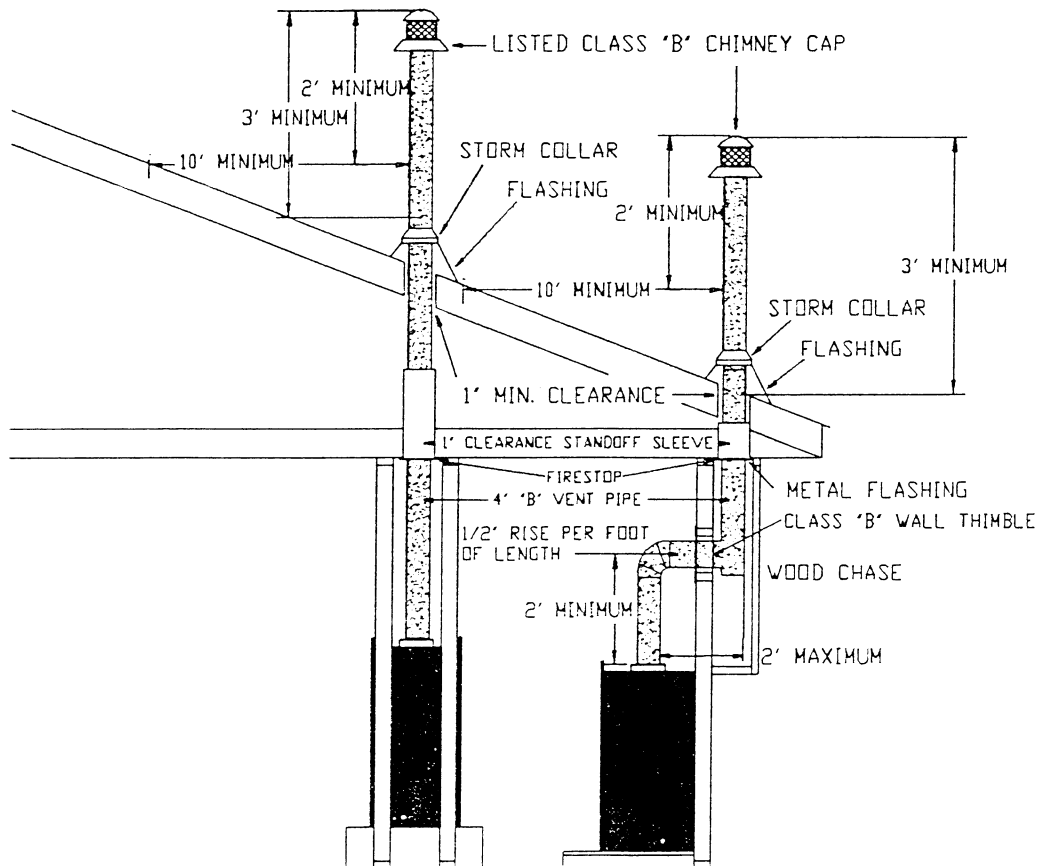

FIGURE 6
D) INSTALL THE CHIMNEY SYSTEM. See Figure 6.
IMPORTANT: The chimney must be a minimum of 3' above the roof line with a minimum of 2' above the 10' horizontal line from the roof. See figure 6.
Class "B" - 4" flue vent is required for this unit. Follow the vent pipe manufacturers instruction or NFPA (ANSI Z223.1-1988) for proper installation. Also, see Figure 6 for minimum clearances to roof.